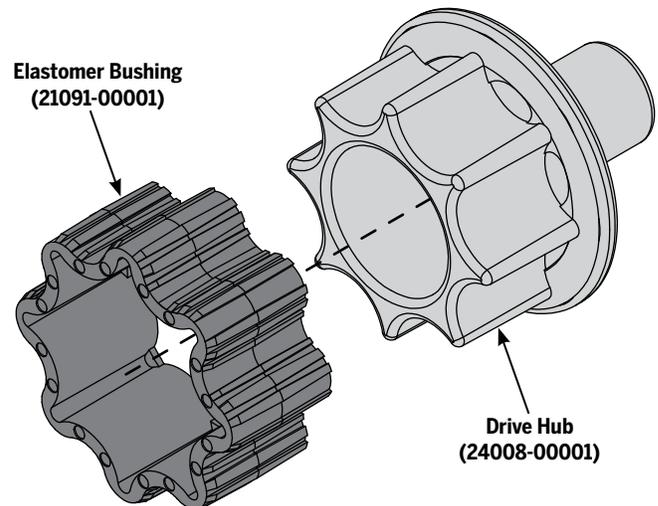

Figure 127: Elastomer Bushing
4. Pull the Elastomer Bushing off of the Drive Hub (Figure 127).